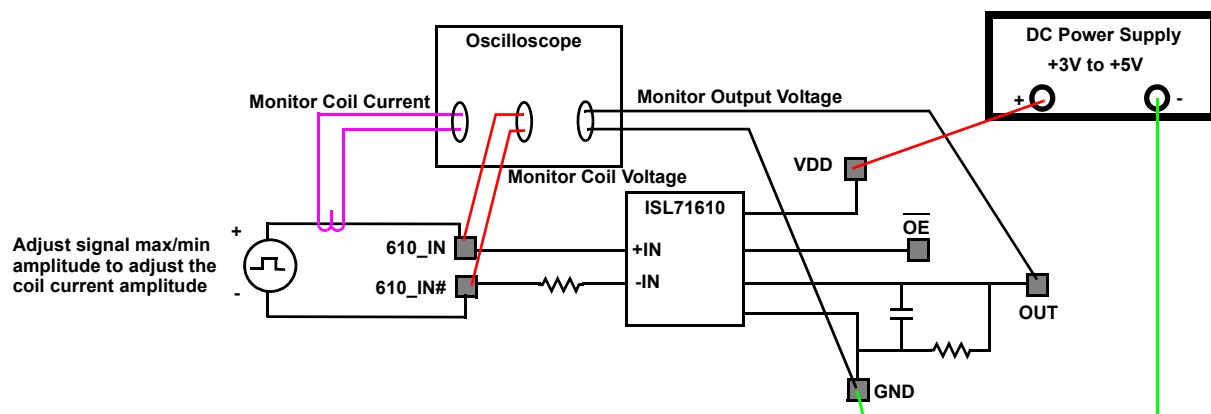

Figure 2. ISL71610M Basic Evaluation Test Setup Block Diagram
- (1) Configure the board as shown in Figure 2.
- (2) Use the signal generator drive a +2V to -2V signal into the coil using the 610_IN and 610_IN# inputs. Observe the coil current with the oscilloscope and adjust the +V and -V levels of the generator to adjust the coil current level. Look at the voltage across the IN to IN# test points to make timing measurements as the current probe display may lag in time.
- (3) Connect and turn on a 3V to 5.5V power supply to the output.
- (4) Observe the coil voltage input to the voltage output relationship, moving the pair of jumpers from the inverting (INV) to non-inverting (NINV) set of connectors allows you to see the inverting or non inverting input to output waveform relationships.